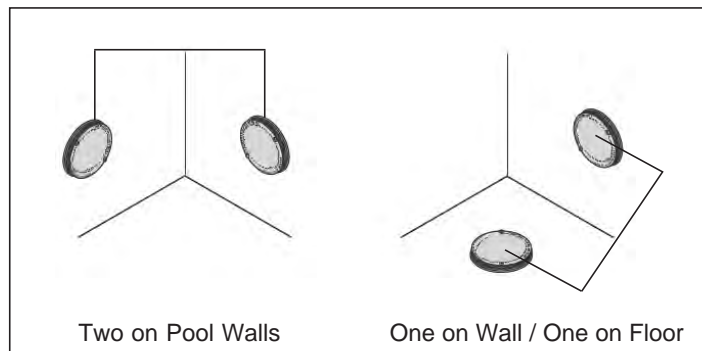
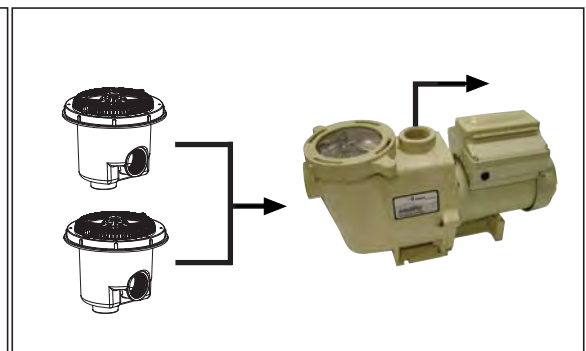

Figure 1: Alternate Location for Suction Outlets
Figure 2: Two Suction Outlets per Pump
- In addition to two or more suction outlets per pump (Figure 2) installed in accordance with the latest APSP standards and CPSC guidelines, follow all applicable national, state and local codes.
- A. Locate the outlets at least three (3) feet apart.
- B. Locate the outlets in two (2) different planes (Figure 1), (for example, one on the bottom and one on a vertical side wall, or on two separate vertical side walls). Use multiple suction sources to reduce risk of entrapment. Failure to maintain fittings and covers can lead to severe injury or death. Use of fittings when covers are broken, loose or missing can lead to severe injury or death. If using 1½ in. plumbing. Consult your local building dept. for codes or ordinances that may apply.